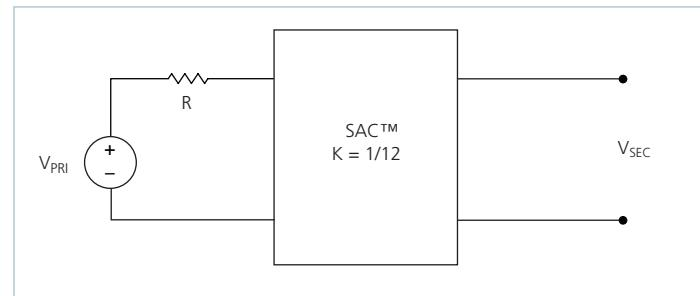

Figure 18 —  $K = 1/12$  Sine Amplitude Converter™ with series primary resistor
The use of DC voltage transformation provides additional interesting attributes. Assuming that  $R_{\text{SEC}} = 0\Omega$  and  $I_Q = 0\text{A}$ , Eq. (3) now becomes Eq. (1) and is essentially load independent, resistor  $R$  is now placed in series with  $V_{\text{PRI}}$  as shown in Figure 18.
Assuming that  $R = 1\Omega$ , the effective  $R$  as seen from the secondary side is  $6.9m\Omega$ , with  $K = 1/12$  as shown in Figure 18.